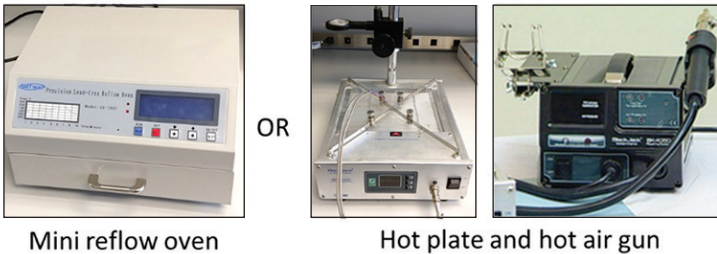

Figure 4: Example of a mini reflow oven: SMTmax model AS-5001 and example IR hot plate: BlackJack BK7000; example hot air gun: BlackJack BK4050
- 1) Using a mini reflow oven similar to the one shown in figure 4 left,
- 2) Using a hot plate in combination with a hot air gun shown in figure 4 right.